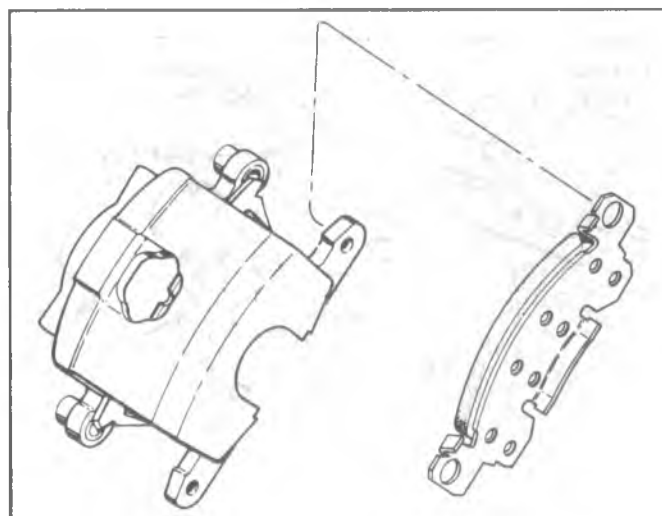

Fig. 5-28--Installing Outboard Shoe
- Position the outboard shoe in the caliper, with the ears at the top of the shoe over the caliper ears and the tab at the bottom of the shoe engaged in the caliper cut-out (see fig. 5-28). Be sure to note right and left brake shoes.